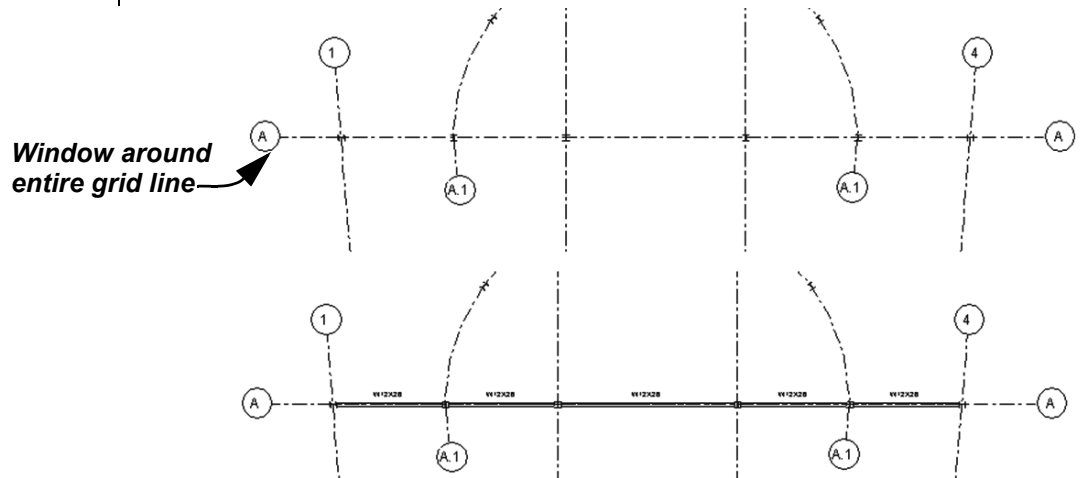

Figure 7–4
3. Select the grid lines where you want to place the beams. A beam is placed between each grid intersection, as shown in Figure 7–4. Hold <Ctrl> to select more than one grid line, or use a selection window to select multiple grid lines at one time. Columns must be in place in order to add multiple beams at the same time.
Beam systems are layouts of parallel beams within a structural quadrant giving the structure added support, as shown in Figure 7–5. Typically used in joist layouts, beam systems can be set up to use either a fixed distance or number of beams.